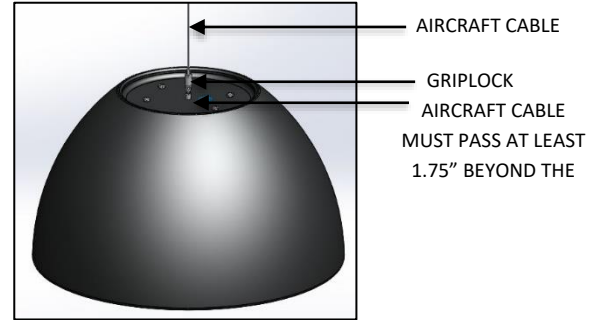

FIG. 11 – AIRCRAFT CABLE INSTALLATION
7. Raise the fixture and feed the AIRCRAFT CABLE into the GRIPLOCK by pressing the plunger of the GRIPLOCK and insert the AIRCRAFT CABLE into the body of the GRIPLOCK and adjust fixture drop to desired height as shown in FIG. 11.